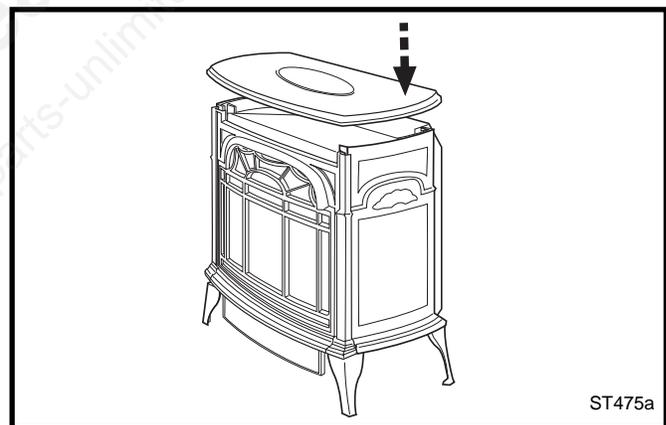

Fig. 50 Install top plate.
3. Install the Top Plate. The upper edges of the side plates should seat into the channel on the underside of the Top. (Fig. 50)